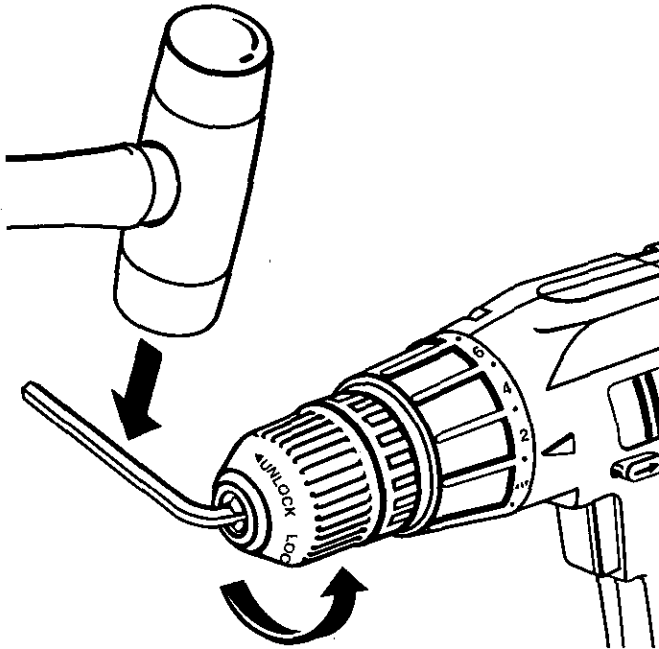

Fig. 14
- Insert allen wrench in chuck and tighten chuck jaws securely. Tap sharply with a mallet in a counterclockwise direction. This will loosen chuck on the spindle. It can now be unscrewed by hand. See Figure 14.